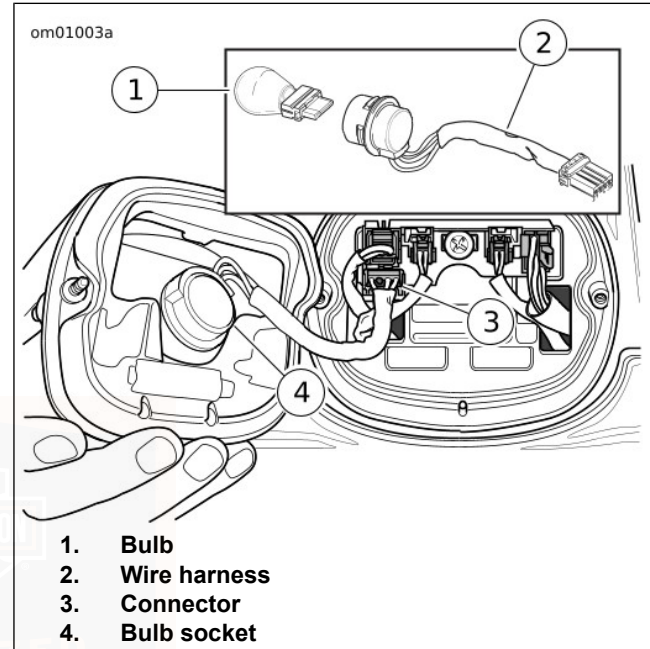

Figure 86. Tail Lamp
2. See Figure 86. Press the tab on the connector (3) and remove the connector from the base.
3. Rotate bulb socket (4) a quarter turn counterclockwise. Remove socket, wire harness (2) and bulb (1).
1. See Figure 86. Apply ELECTRICAL CONTACT LUBRICANT to the contacts of a **new** bulb (1). Press the new bulb into the wire harness (2) socket (4).
2. Insert socket (4) into tail lamp lens. Rotate socket a quarter turn clockwise to lock it in place.
3. Snap tail lamp connector (3) into tail lamp base.